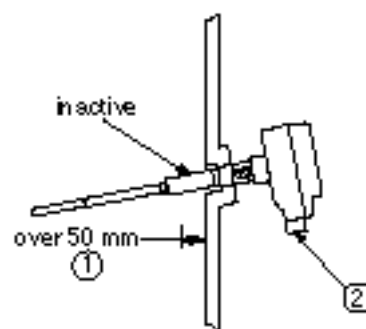

Fig. 5
Ground electrode should be inserted into the vessel equal to or over 50 mm. Refer ① of Figure 5.
When installing at the side of vessel(horizontally), cable gland at the case should be directed downwards for waterproof. Refer ② of Figure 5.